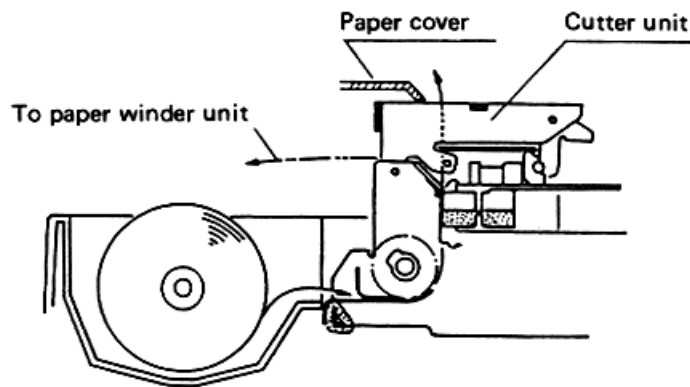

Fig. 18
- 7) In the case, of the CBM-720, attach the printer cover, press the LFswitch, and confirm that the paper comes out of the paper exit. When the paper winder mechanism is being used, lift the cutter unit to pass the paper through as shown in figure 18, Then feed the paper towards the rear of the printer from the inside of the paper cover, and secure it to the take-up spool.